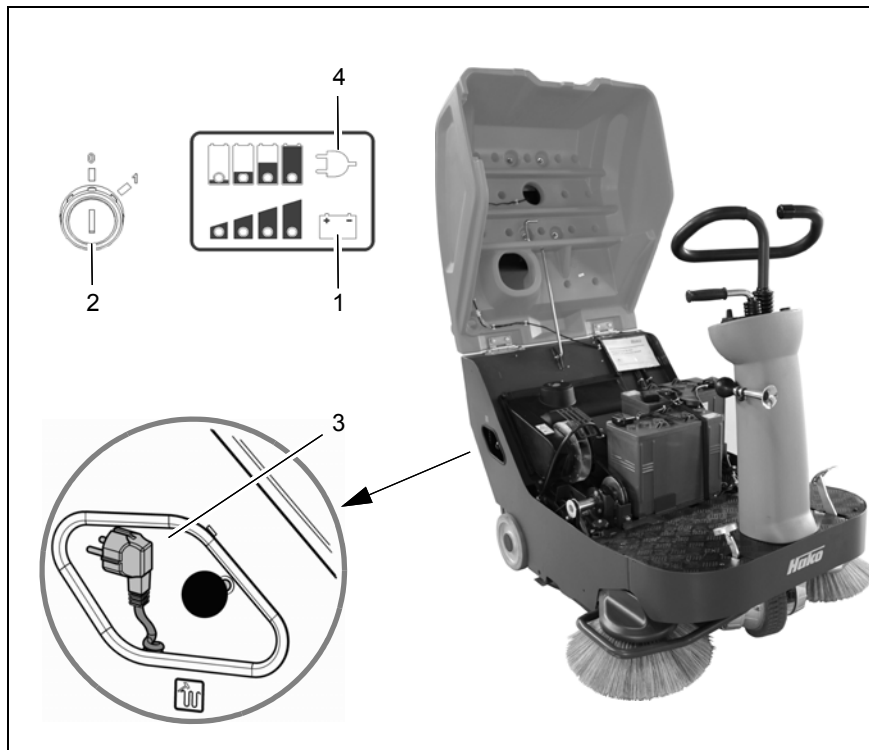

Fig.13
During operation, the charge status indicator (Fig. 13/1) displays the discharge status of the batteries. When the red LED lights up, the battery must be charged immediately.
1. Switch the vehicle off using the key switch (Fig. 13/2) and secure with the parking brake. Remove the key.
2. Take the power cable (Fig. 13/3) from the opening and plug it into a power outlet (110-230 VAC).
3. While the battery is being charged, the charge control indicator (Fig. 13/4) lights up. When all three green LEDs light up, the batteries are fully charged.